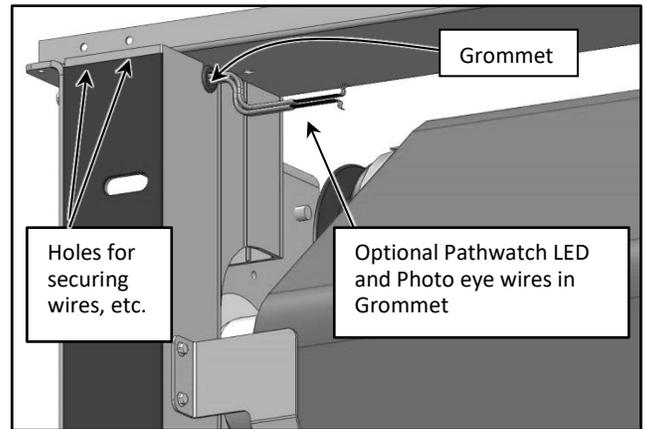

Figure 20
13. Route the (optional) Pathwatch LED and Photo eye wires up between the rear spreader bar on the head assembly and the wall to the top of the spreader. Use zip ties or another similar fastener to secure them to the spreader in the holes provided. (See Figure 20)